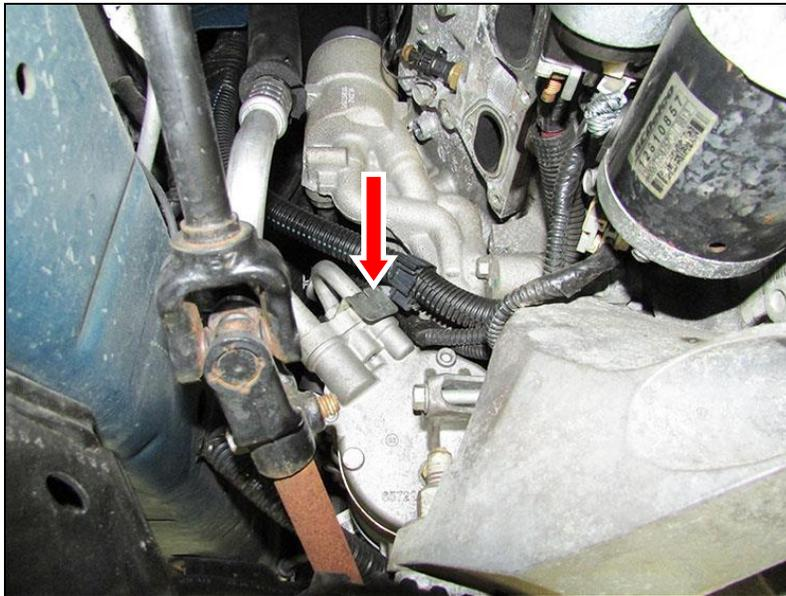

Figure 1
11. Bend the wire harness bracket towards the front of the vehicle around the AC compressor. This will get the wire harness away from the header tube. You will need a minimum of 1.0" clearance from the wire harness to the header tube. See **Figure 1**.